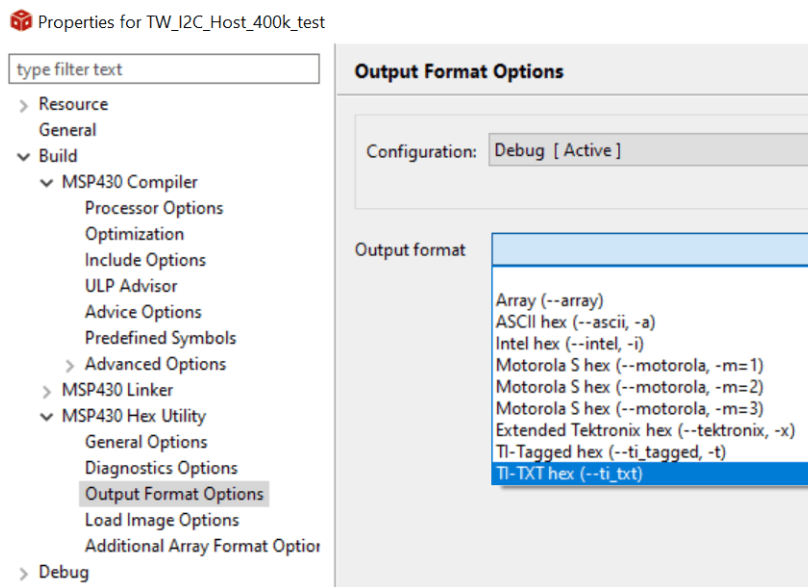

Figure 2-5. Generate TI-TXT Hex File in CCS
| Figure 2-5. Generate TI-TXT Hex File in CCS..... | 6 |
5. Prepare the target device firmware in TI-TXT hex format (see Figure 2-5).